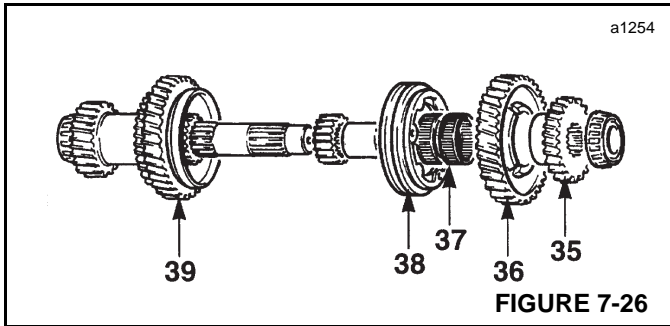

FIGURE 7-26
- 35. Remove spacer and bearing (35, Figure 7-26). Illustration shows a gear (35), which is only used on a 4WD transmission. The transmission being serviced is a 2WD transmission.
- 36. Lift off 1st gear (36).
- 37. Remove first gear needle roller bearings (37).
- 38. Lift off 1st/2nd synchro unit (38). Keep synchro cups and cones in correct relationship, i.e. cup and cone as a pair.
- 39. Pull off 2nd gear, synchro-hub, synchro cup and needle roller bearings (39) from layshaft.